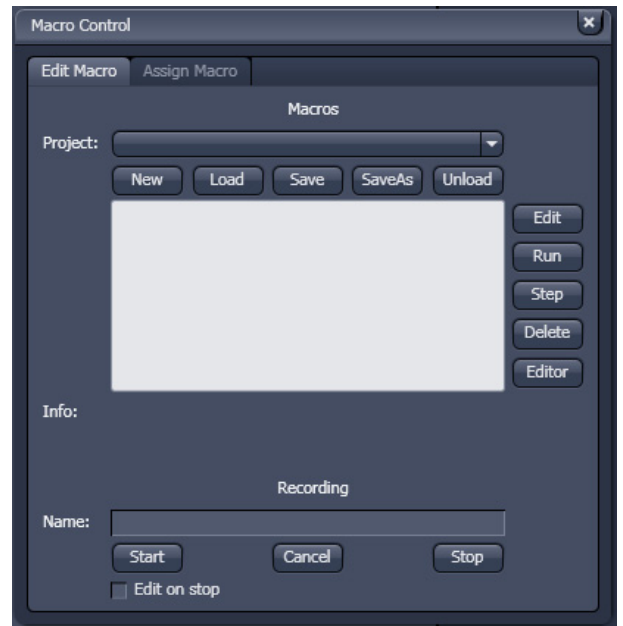

Fig. 3 Macro Control window
Selecting **Macro** opens a dialogue for editing and recording Macros based on VBA programming in the **Macro Control** window (see Fig. 3). VBA programming is described in Section 5.2 of the printed manual.
- Press the **Edit Macro** tab to switch to the **Macro** and **Recording** panels (see Fig. 3).